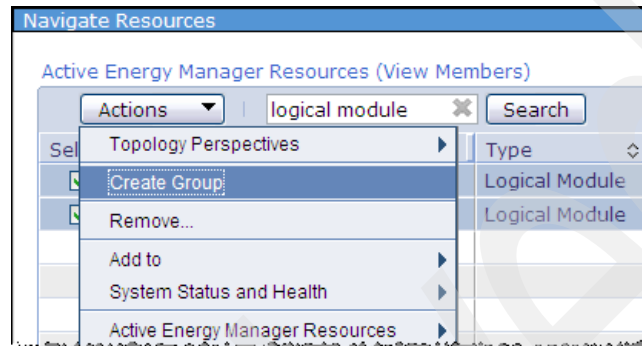

Figure 8-60 Combine two different metered resources by grouping
3. To monitor the integrated power-trend from x3650 Server PowerSupply#1 and x3650 Server PowerSupply#2, you need to combine these two different metered resources by grouping. To create the x3650 Server(PS1+PS2) Group, select **x3650 Server PowerSupply#1** and **x3650 Server PowerSupply#2**, and then click **Actions** → **Create Group**, as shown in Figure 8-60.